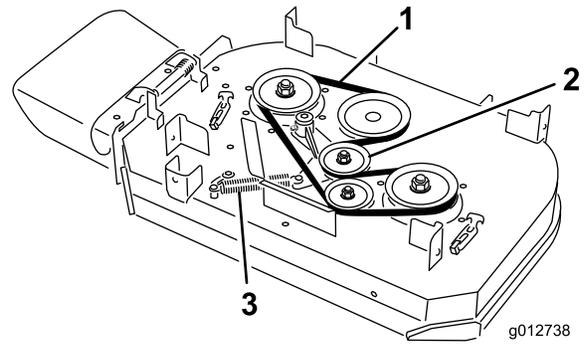

Figure 65
4. Remove the spring from the anchor post on the idler pulley arm (Figure 65).
5. Remove the worn mower belt (Figure 65).
6. Install the new mower belt around the clutch pulley, deck pulleys and idler pulley (Figure 65).
7. Install the spring onto the anchor post on the idler pulley arm (Figure 65).
6. Install the new mower belt around the deck pulleys and idler pulley (Figure 65).
5. Remove the spring from the anchor post on the idler pulley arm (Figure 65).
6. Remove the worn mower belt (Figure 65).
7. Install the new mower belt around the deck pulleys, clutch pulley and idler pulley (Figure 65).
8. Install the spring onto the anchor post (Figure 65).